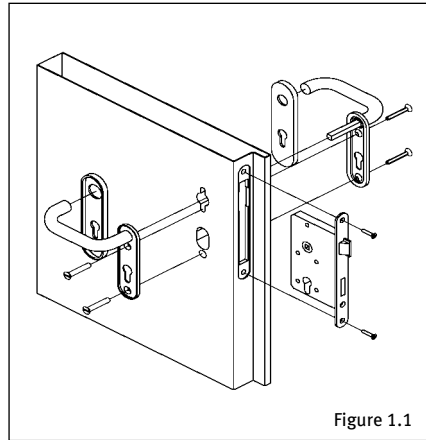
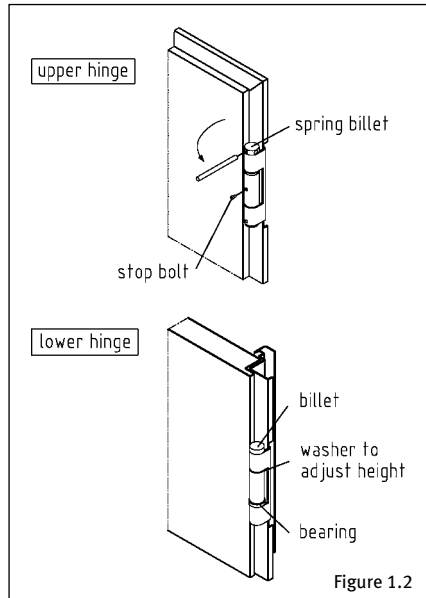

Figure 1.1
Figure 1.2
- 3.5 Align the frame to rule mark and wedge vertically and horizontally. Fasten the frame on the hinge side and hinge the door leaf (grease the steel hinge bars) (Figure 1.2). Align and fasten the lock side according to the door leaf and crop hinges wherever necessary, refer to chapter 3.9 if necessary (check 4 mm gap). Fasten the plate and handle with screws (Figure 1.1).
- 3.6 Pretense the helical hinge with the attached round bar and lock with stop bolt. The door has to close from a position of 30° . Place washers to adjust door height (Figure 1.2).